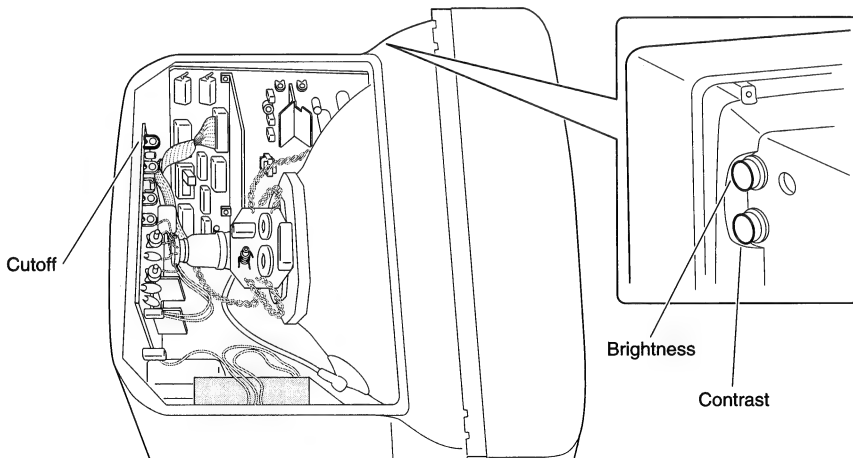

Figure 8 Brightness, Contrast, and Cutoff Controls
1. FIGURE 8. Switch off the monitor and remove the video cable. Turn the brightness control to the detent position (midrange) and the contrast control to maximum (full clockwise).
2. FIGURE 8. Turn the Cutoff control full counterclockwise and switch on the monitor. Let the monitor warm up for 20 minutes.
3. FIGURE 8. Turn the Cutoff control clockwise until the raster just fades to black.
6. FIGURE 8. Adjust the Cutoff control so that bar 1 is completely black and bar 2 is barely visible.